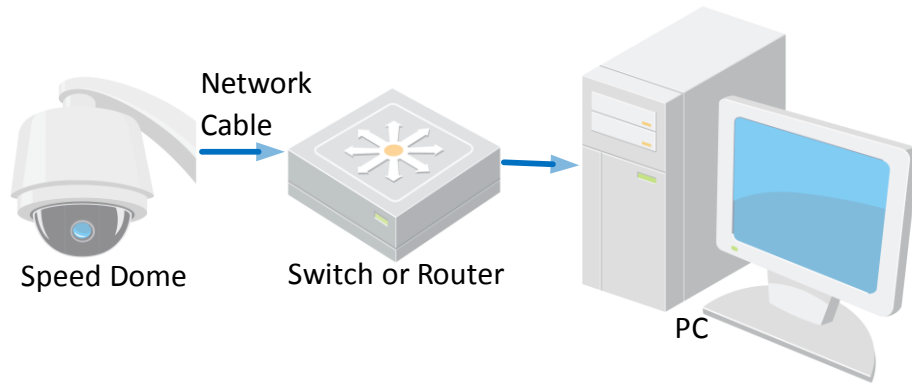

Figure 2-2 Connecting via a Switch or a Router
- Refer to the Figure 2-2 to set the network speed dome over the LAN via a switch or a router.